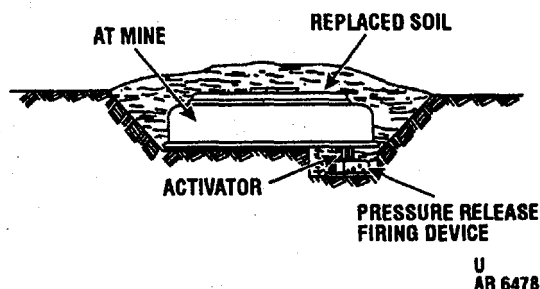

Figure 2-45. Anti-handling devices.
- (21) Camouflage installation in accordance with instructions in FM 2032, being careful not to move extension rod or place any material in a position that will prevent movement of extension rod or pressure ring.
e. *Boobytrapping* (figs. 2-45 and 2-46).
As mine employs activator M1, which is a high-explosive booster, and is equipped with two secondary fuze wells, the wells may be used for boobytrapping. Any firing device with standard base coupling or firing devices with 0.5625 outside thread can be used with activator M1 for this purpose (fig. 2-45).